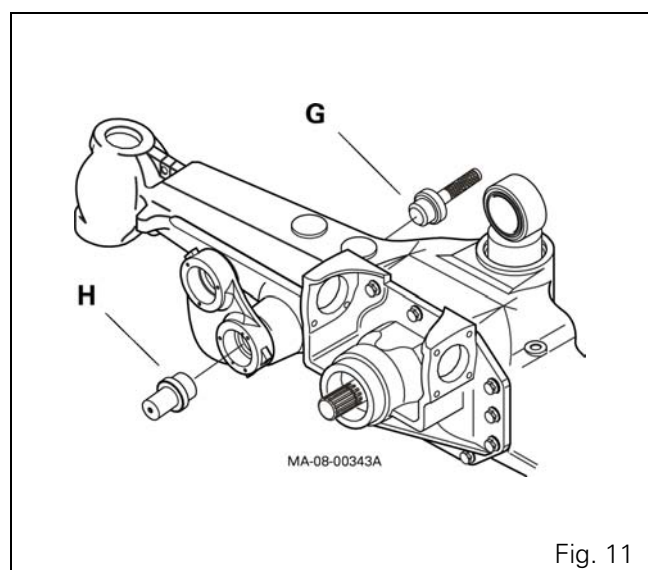

Fig. 11
11. Install the lower arms on the axle beam and align the pins by inserting special tool ref. CA715350 (see § C) G into the housing at the side opposite the pin assembly (Fig. 11).
Install the arm pins H into the holes provided in the arms and axle beam, and push them home in their holes using special tool ref. CA715353 (see § C) (Fig. 11).